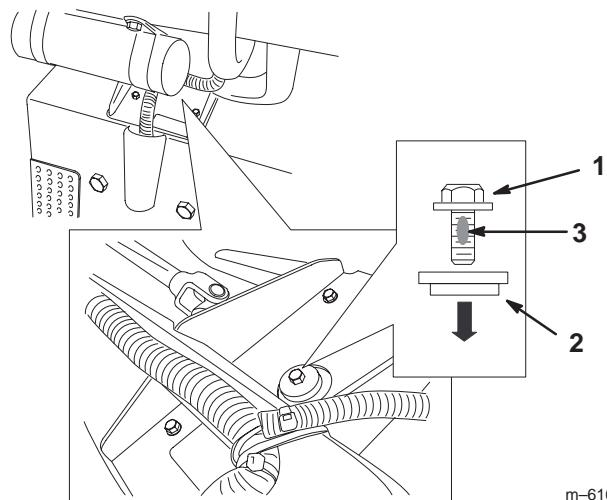

Figure 20
1. Remove the existing retaining bolt and washer (located under the dash) and discard them (Fig. 20).
2. Install a new flange-head bolt with blue patch lock and a step washer with the step pointing down into the steering pitman arm (Fig. 20).